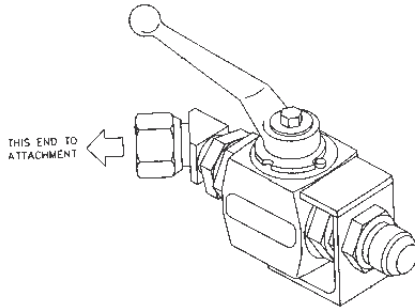

Figure 7-3. Ball Valve
8. Open the ball valves. Refer to Figure 7-3.